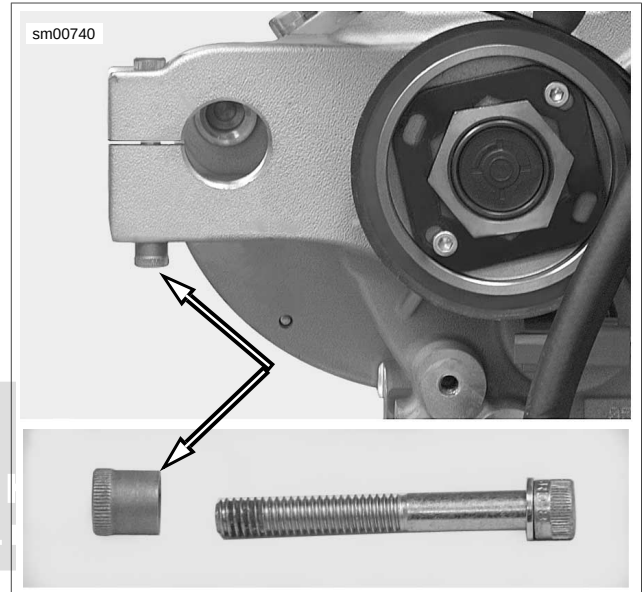

Figure 3-27. Threaded Insert
- c. See Figure 3-27. Apply LOCTITE 242 (blue) to swingarm pivot shaft pinch bolt threaded insert and install.